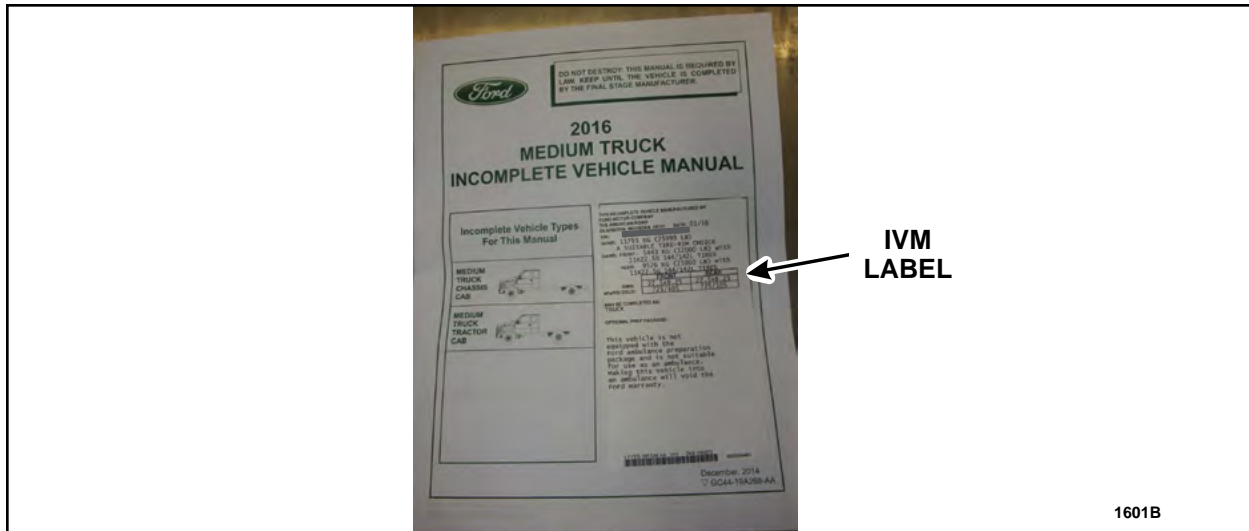

FIGURE 2
2. Locate the IVM and replace the IVM Label with an updated label. See Figure 2.